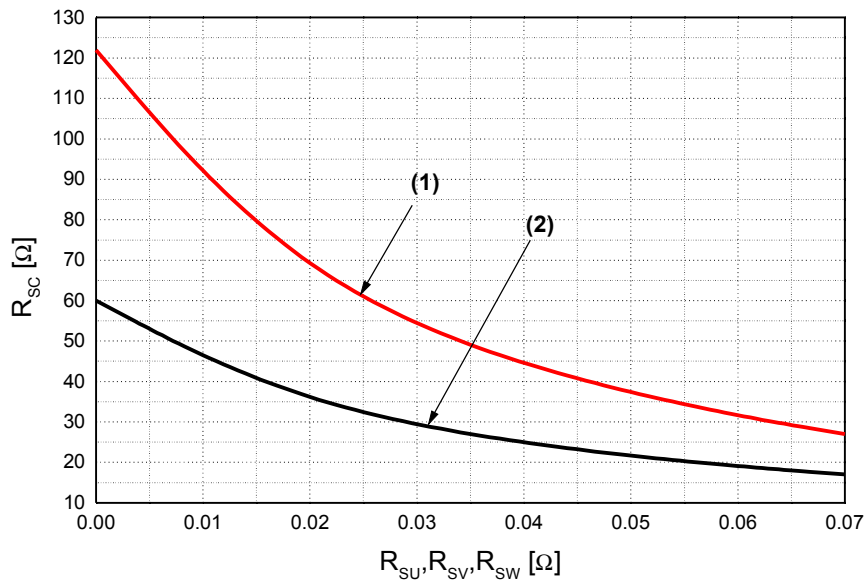

Fig. 7. R_{SC} Variation by change of Shunt Resistors (R_{SU} , R_{SV} , R_{SW}) for Short-Circuit Protection
- Short-circuit current protection is functioning only at the low-sides. It would be recommended that the value of the external sensing resistor (R_{SC}) should be selected around 60 Ω in order to make the SC trip-level of about 30A at the shunt resistors (R_{SU}, R_{SV}, R_{SW}) of 0Ω. For the detailed information about the relationship between the external sensing resistor (R_{SC}) and the shunt resistors (R_{SU}, R_{SV}, R_{SW}), please see Fig. 7.